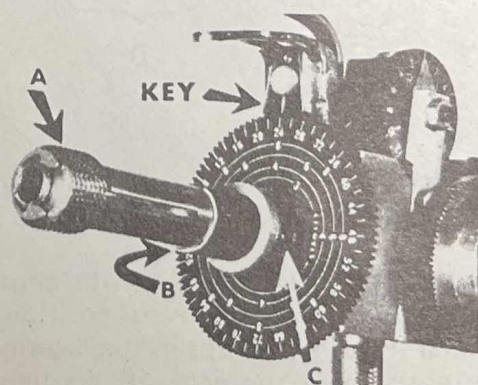

Figure 5.
When changing an index gear, remove the dop chuck (A) and the grit sleeve, (B), loosen the set screw, (C) and remove the gear, (Fig. 5). Some units have a gear sector acting as a key, and some have a single point key. If you have a single point type, there is no need to change it when changing index gears. If you have the gear sector, however, (which is shown in figure 5), remove the screw in the gear sector and remove the sector. Install the new sector on the dowel pin and insert the screw. Install the new gear on the spindle shaft. Before tightening the set screw, latch into the free wheeling position and check for rotational freedom and lack of end play. Be sure the set screw is seated in center of flat on the shaft.